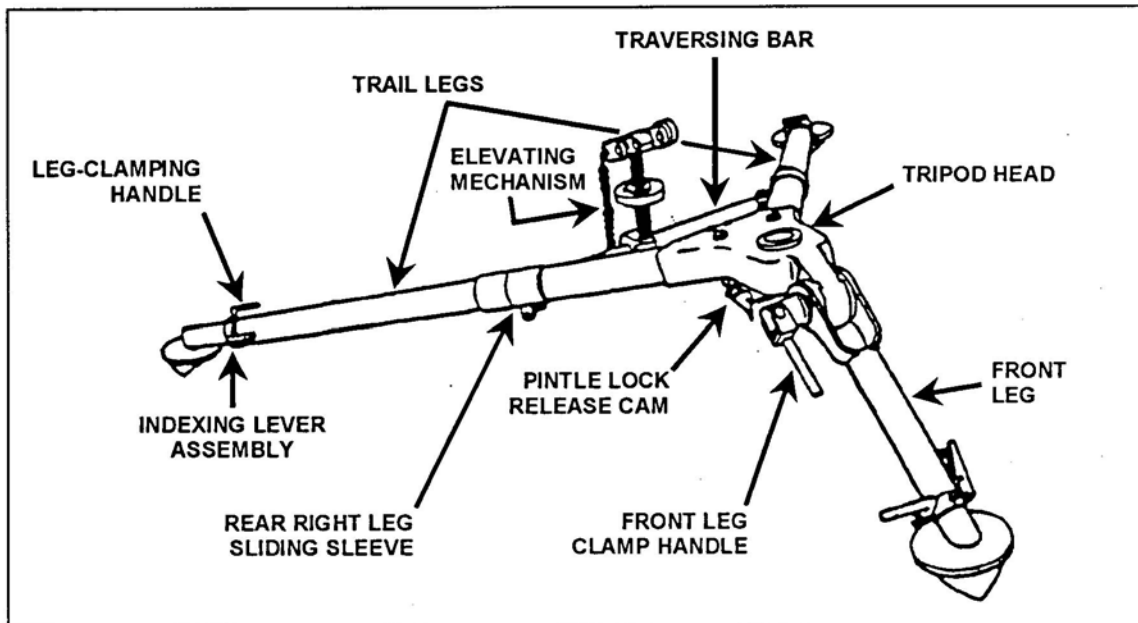

Figure 2. M3 tripod.
- a. Lock the T&E mechanism in the center of traversing bar (Figure 2).